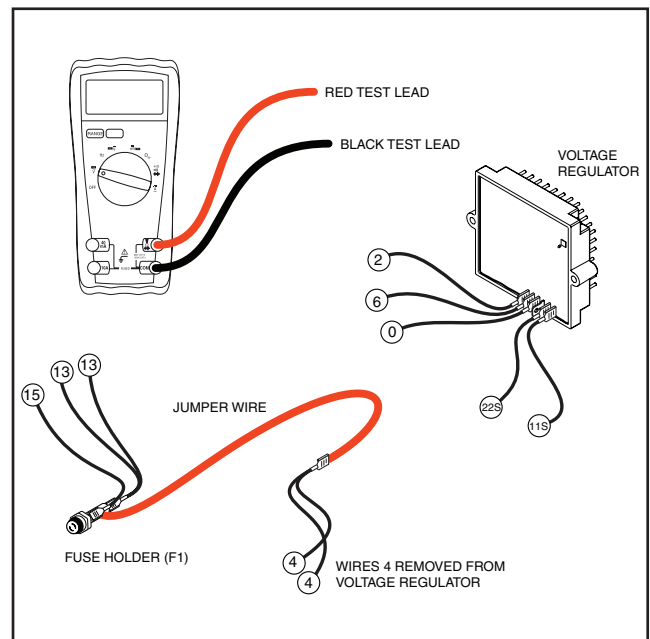

Figure 7-3. – Fixed Excitation Test, Step A
1. Disconnect Wire 4 from the Voltage Regulator (VR). (Third terminal from the right side of VR).
2. Connect a jumper wire to Wire 4 and to the 12 volt fused battery positive supply Wire 15, located at the fuse (F1) holder (see Figure 7-3).